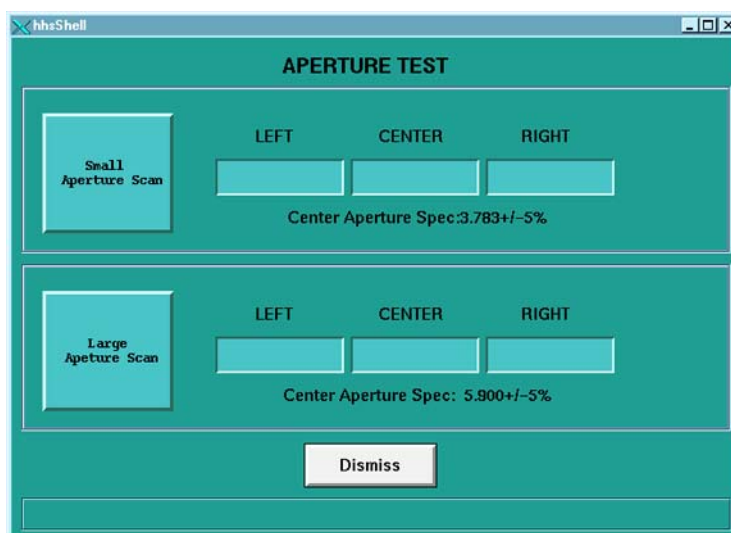

Figure 5-3 Collimator Aperture Test Screen
- 6.) Select SMALL APERTURE SCAN to display a scan protocol window, and start gantry activity (refer to Figure 5-3).
- 1.) Select LARGE APERTURE to display a scan protocol window, and start gantry activity (Refer to Figure 5-3).